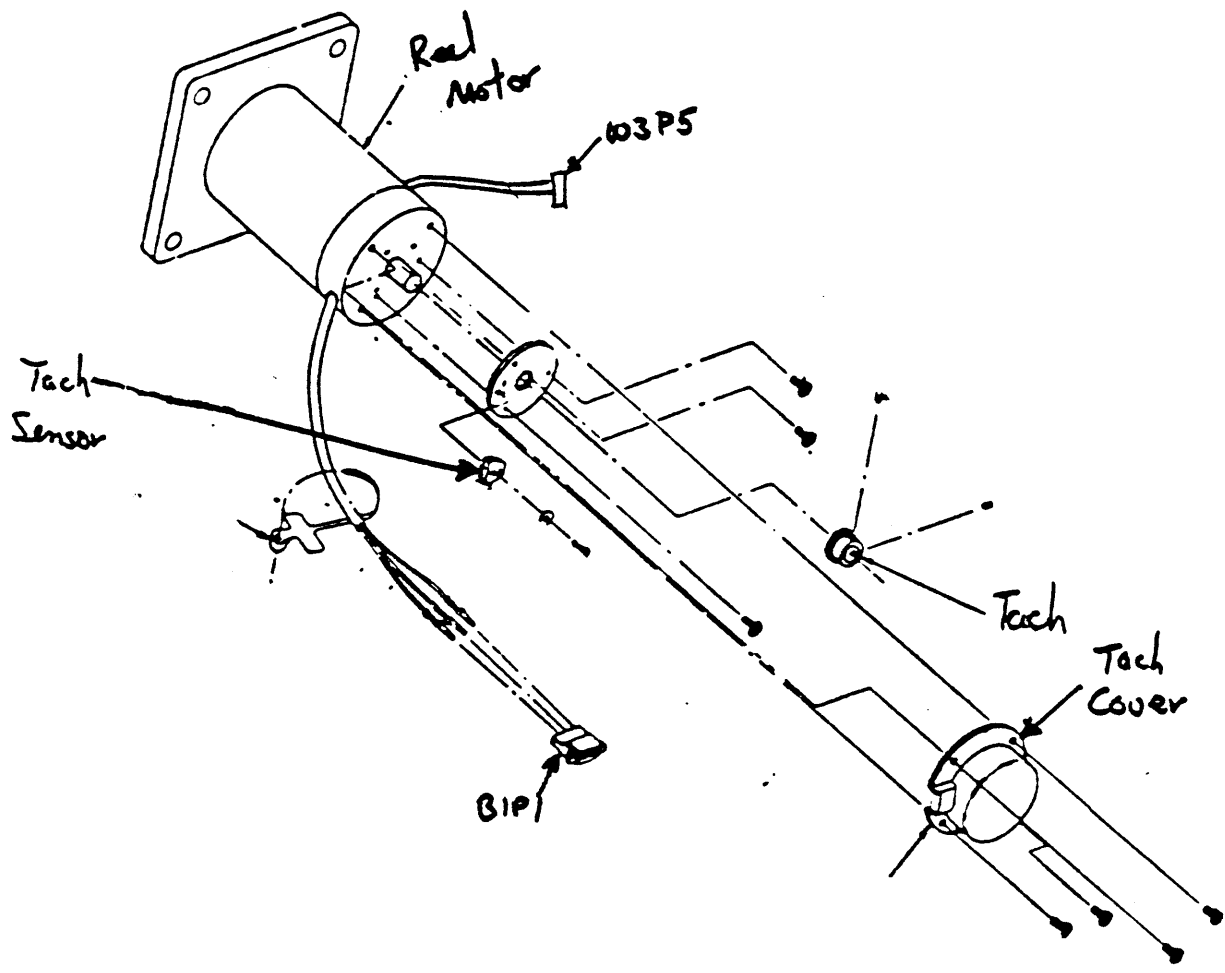

Figure 8 Supply Reel Motor Removal
- ___ 1. Detach the B1P1 connector from the J3 plug on the power amplifier module (Figure 8).